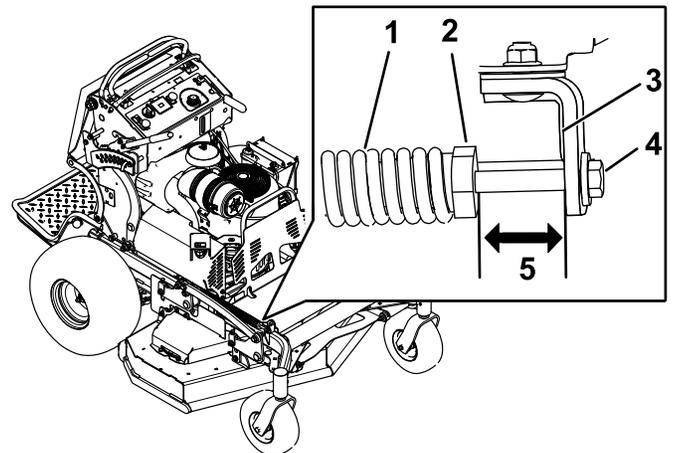

Figure 99
2. Check the distance between the spring nut and the rear side of the welded mount bracket (Figure 99).
3. Ensure that the length is 51mm (2 inches) for 48/52in decks, and 38mm (1.5 inches) for 60in decks as shown in Figure 99.
4. If needed, adjust the distance by adjusting the bolt on the front of the mount bracket (Figure 99).